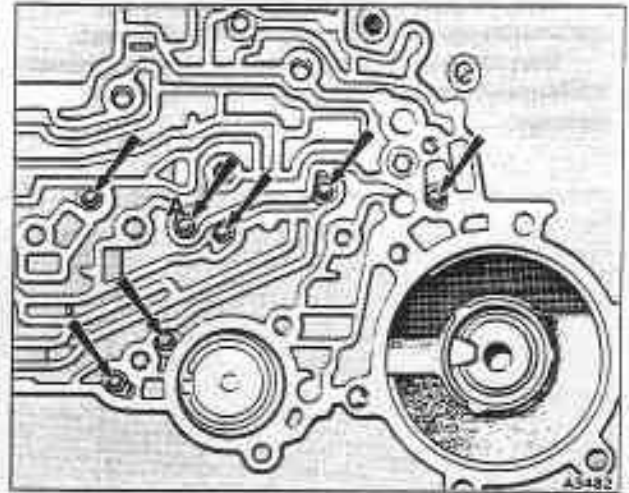

Fig. T15-1 Location of check balls - transmission case
7. Remove the six check balls (seven on 1988 and 1989 model year cars) from the cored passages in the transmission case (see fig. T15-1).